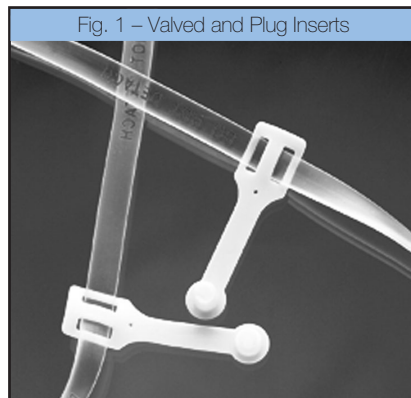
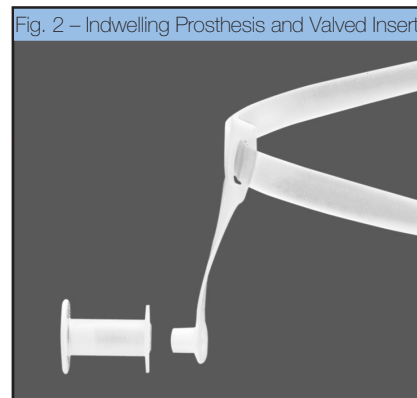

Fig. 1 – Valved and Plug Inserts
Fig. 2 – Indwelling Prosthesis and Valved Insert
1). This device, attached to a safety neck strap, is a one-way valve that inserts into the open end of the prosthesis (Fig. 2) and can be used with Indwelling sizes 1.8–3.3. It provides a “temporary valve” that can be inserted by the user to eliminate the leak while permitting continued speech until their clinician can replace the voice prosthesis. A 1.4 Indwelling size requires the use of a non-valved “Plug-Insert” (Fig.1) due to the shortness of this prosthesis.